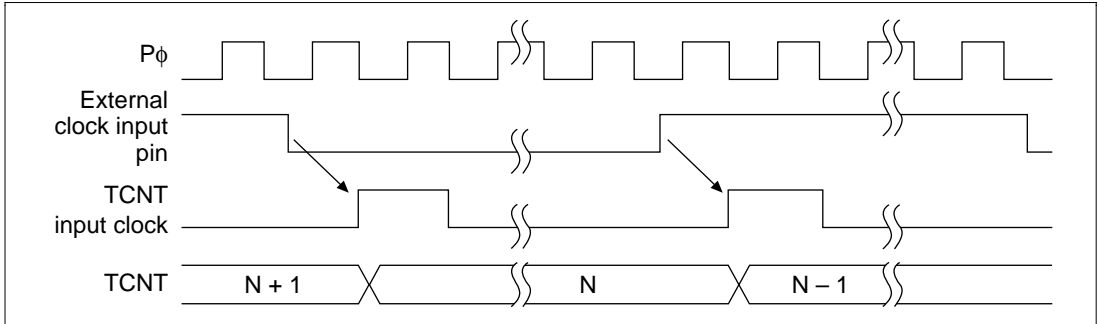

Figure 15.5 Count Timing when External Clock is Operating (Both Edges Detected)
- **External Clock Operation:** Set the TPSC2–TPSC0 bits in TCR to select the external clock (TCLK) as the timer clock. Use the CKEG1 and CKEG0 bits in TCR to select the detection edge. Rise, fall or both may be selected. The pulse width of the external clock must be at least 1.5 peripheral module clock cycles for single edges or 2.5 peripheral module clock cycles for both edges. A shorter pulse width will result in accurate operation. Figure 15.5 shows the timing for both-edge detection.